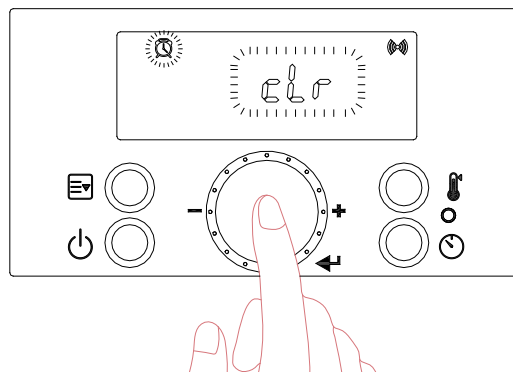

Figure 47 – Resetting the Recirculation Run Time
b. Turn the dial  until “cLr” flashes on the screen. Press the  button at the “cLr” screen to reset the Recirculation Run Time. See Figure 47.